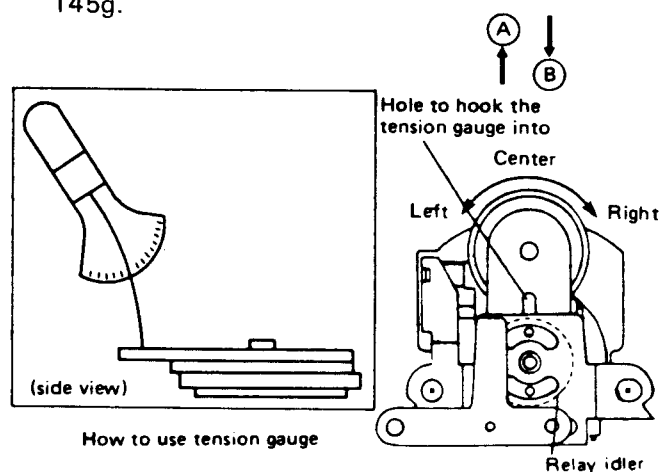

Figure 1-10.
1. Remove the cassette housing and set the master plane in the mechanism as shown in Fig. 1-10 (a), taking care not to hit the drum.
2. Move the reel idler to its center position as shown in Fig. 1-10.
3. Using a tension gauge, press the reel idler in the direction of arrow $\Rightarrow$ (A) in Fig. 1-10, so that the reel idler moves away from the relay idler.
4. Release the force gradually in the direction of arrow $\Rightarrow$ (B) in Fig. 1-10, so that the reel idler touches the relay idler again. Check that the reading on the tension gauge is within the specified range of 105 to 145g.